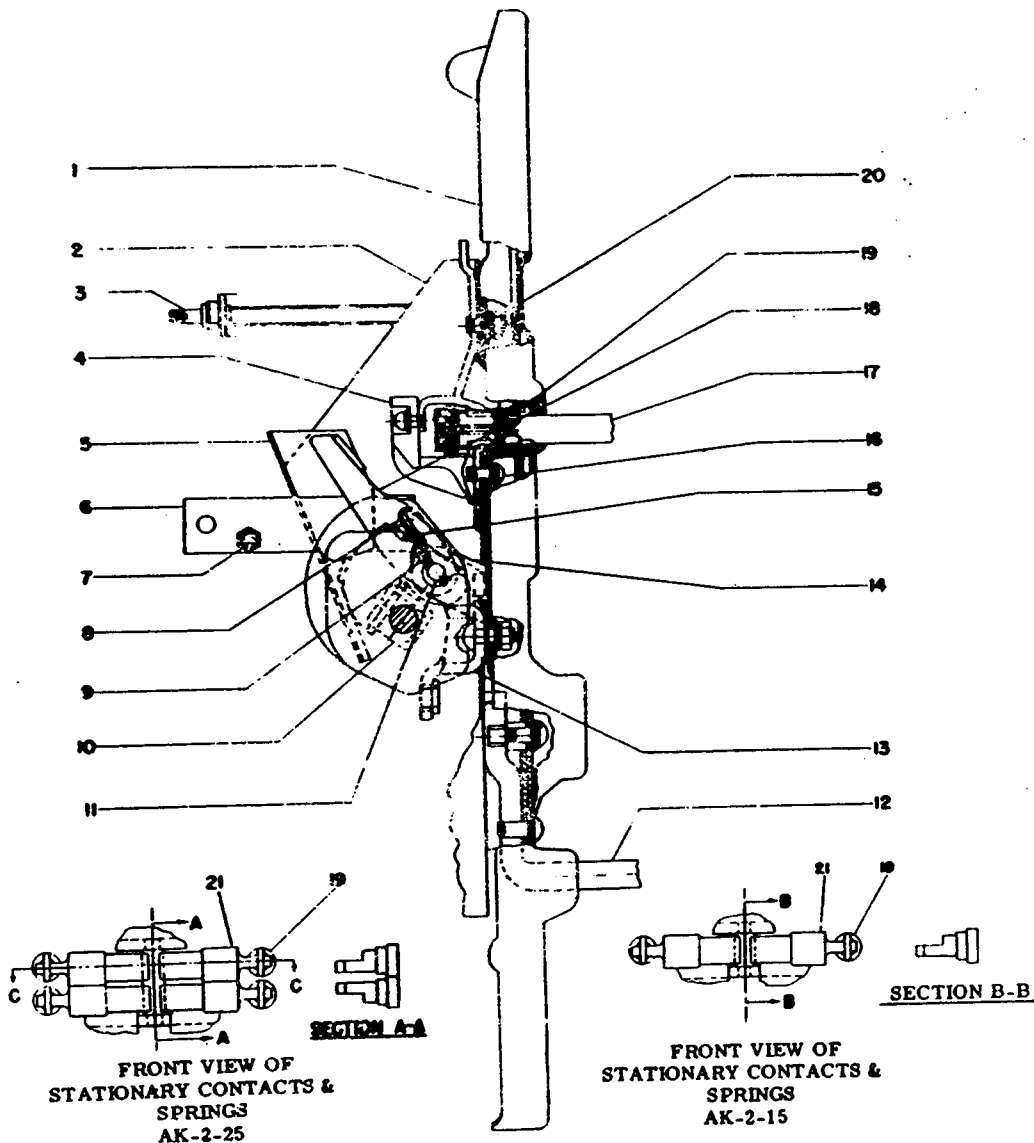

Figure 3. (549D409-2) Contact Assembly
stationary contacts and be sure to locate them in the breaker with the upper and lower contacts having their stop projecting surfaces as shown in the section AA, Figure 3. The upper left and lower right contacts are identical as are the lower left and upper right contacts.
### REPLACEMENT OF MOVABLE CONTACTS (18) Figure 3.